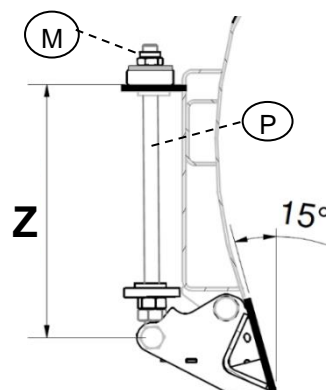

Figure 18
The default cutting angle is 15° ($Z = 420$ mm) (VPX180 is $Z = 360$ mm) see Figure 18. In general, cutting angles only need to be adjusted after the springs have been replaced – see section 1.12.
Dimension Z – see Figure 18 – can be used as a control measure. By tightening the nut (M) in the upper part of the spring rod (P), the cutting angle is smaller – for cutting angle 0° , $Z = 390$ mm. Loosening the nut (M) makes the angle larger.